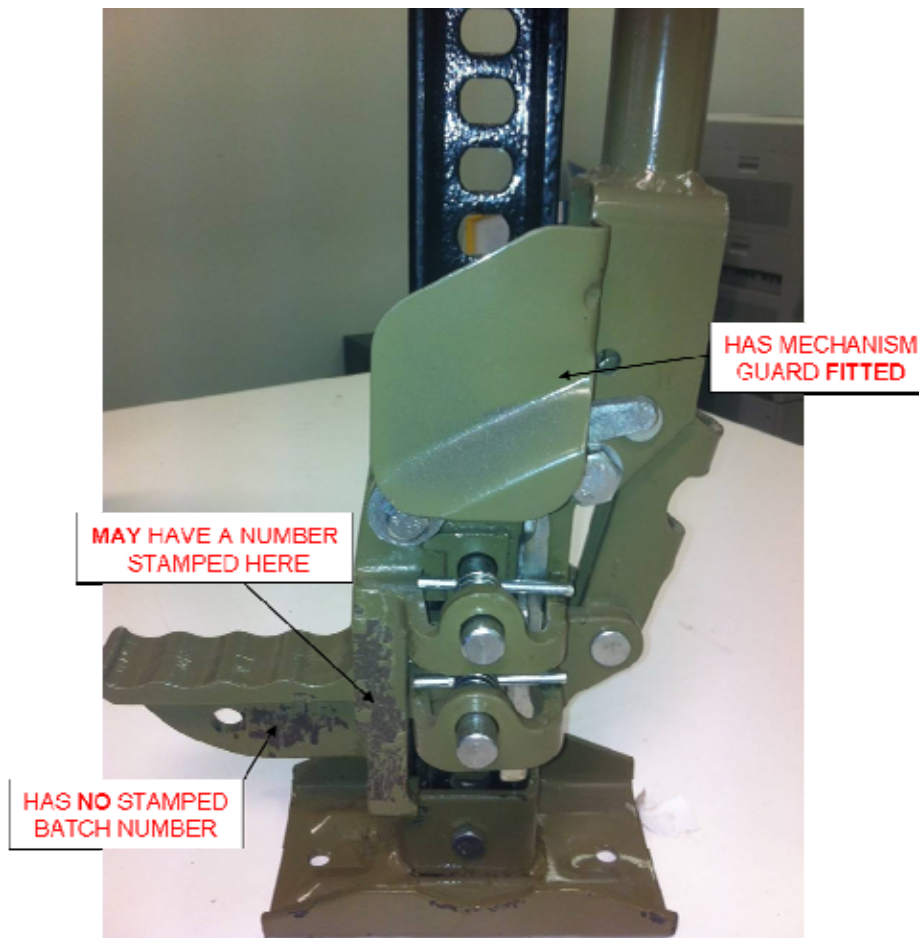

Figure 4 Non-Conforming Hi Lift Jack
7. **Conforming Jack Identification.** Figures 4, 5 and 6 detail what to look for to identify an AS/NZS 2693.2007 conforming Hi Lift Jack. Hi Lift Jacks that do not conform, as depicted in Figure 4, are to be classified 'XX - Do Not Use' and disposed of.